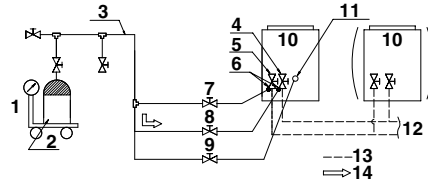

fig. 31
- Open the valve C (See the figure 31. The valve A, B and the liquid and gas side shutout valve must be left closed), and charge the refrigerant of the “additional charging amount” from the liquid side shutout valve service port. If the “additional charging amount” was charged fully, close the valve C and go to step 5. If the “additional charging amount” was not charged fully, go to step 4.